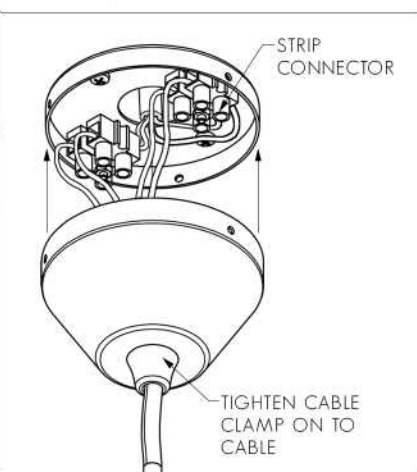

FIG. 4 - FASTEN CABLE USING CORD GRIP
1. FEED LED STRIP TAILS (OR CABLE) THROUGH HOLE IN EXTRUSION AND CLAMP USING CORD GRIP SUPPLIED. (SEE FIG. 4). DO NOT INSTALL LED STRIP AT THIS POINT. 2. MAKE ELECTRICAL CONNECTION; CONNECT LED STRIP TAILS TO LED DRIVER USING CRIMP CONNECTORS, THEN SEAL WITH HEAT SHRINK.